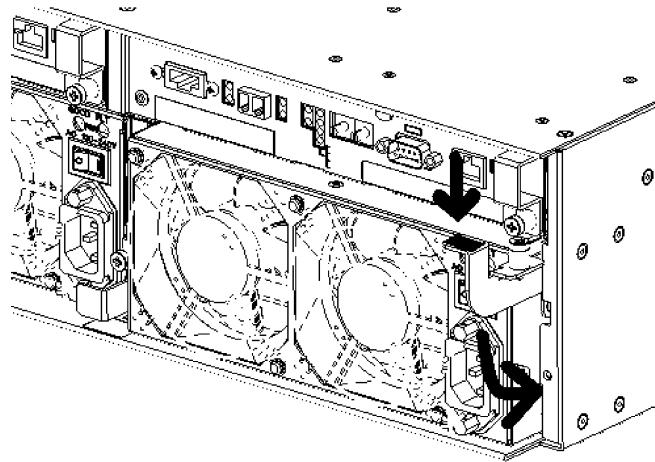

Figure 3-27. Closing the Power Supply Ejector.
- 14.** Push in on the ejector until the power supply is firmly seated in the chassis. See Figure 3-27.